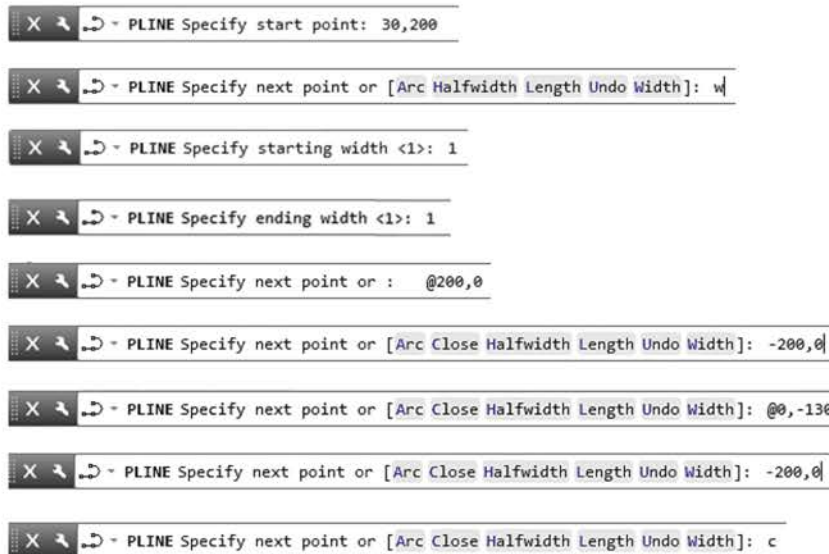

Fig. 2.14 The sequence of prompts and responses followed by *right-clicks*
2. In the popup menu, *left-click* **PLINE** (or **PL**) and the first prompt shown in Fig. 2.14 appears at the command line. *Click* in the command line and *enter* **30,200**, followed by a *right-click*. Make entries at the command line as shown in the sequence in Fig. 2.14, with a *right-click* following each entry.